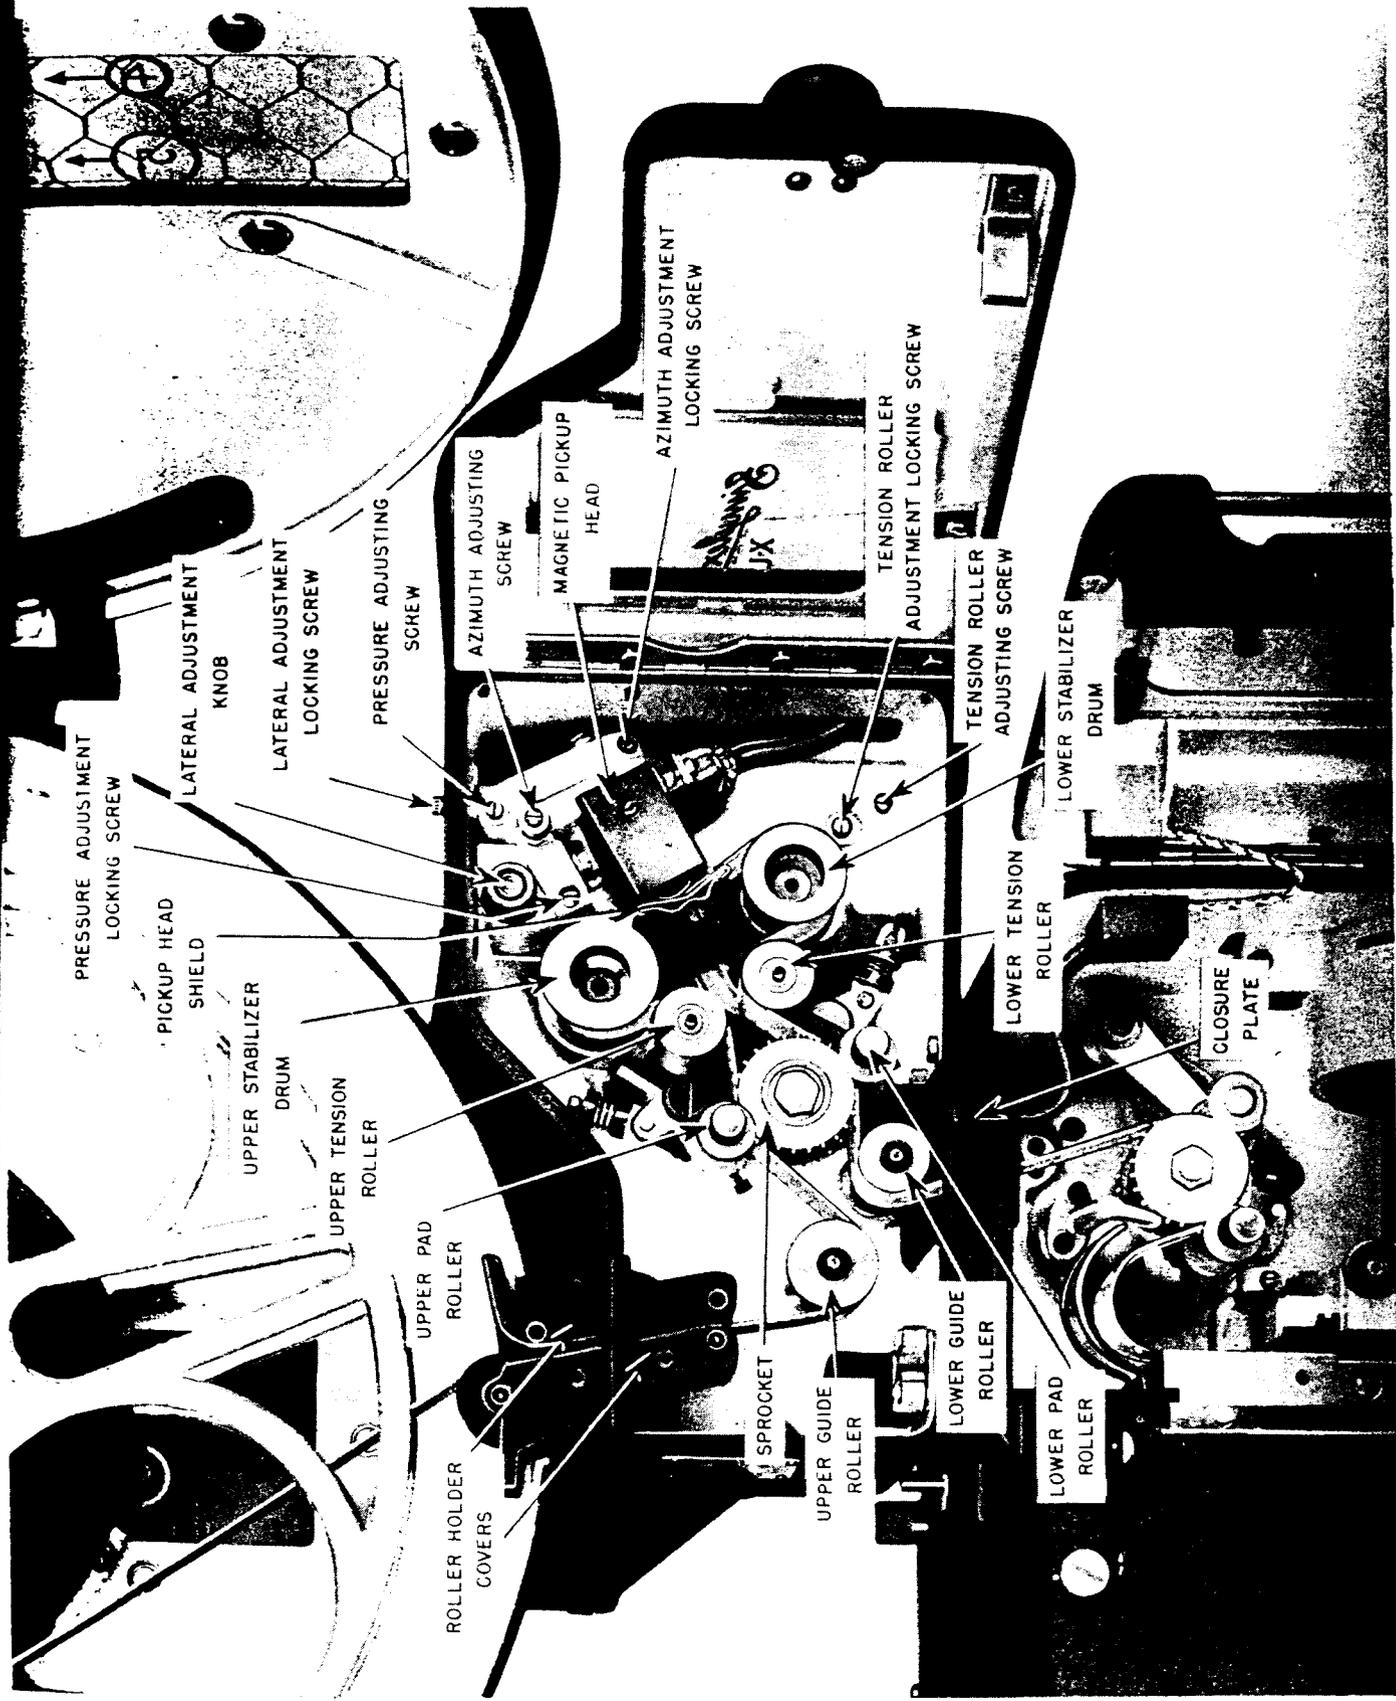

FIGURE 1
- b. Thread the "OFF" machine (Pilot Light in the associated changeover cabinet unlighted) per Figure 1 as follows:-
- (1) Set the picture-start mark on the film at the picture aperture in the projector mechanism and thread upward to the magnetic soundhead in accordance with the Instruction Manual for the projector.
- (2) Open the upper and lower pad rollers in the magnetic soundhead.
- (3) In the magnetic soundhead, thread upward per Figure 1, with a tight loop between the upper sprocket in the projector mechanism and the sprocket in the magnetic soundhead, and close the lower pad roller in the latter.
- (4) Pull the film toward the upper magazine until the Lower Tension Roller strikes its stop and, with the film perforations over the sprocket teeth, close the upper pad roller.
- c. Four Track Magnetic Soundhead - Route the Film from the Upper Magazine to the left of the Upper and to the right of the Lower Guide Roller and then to the Upper Sprocket of the Projector Mechanism. Do not thread as shown in figure 1.
- (1) Close the running switch and motor switch for each of the two Projectors. The Three Track Magnetic Reproducer starts automatically when these switches are closed.
(2) Make the sound changeover by depressing the "Double Film" button on the System Selector Box and depressing the button on the optical changeover associated with the machine having the film with the effects track. Check the running of the film.